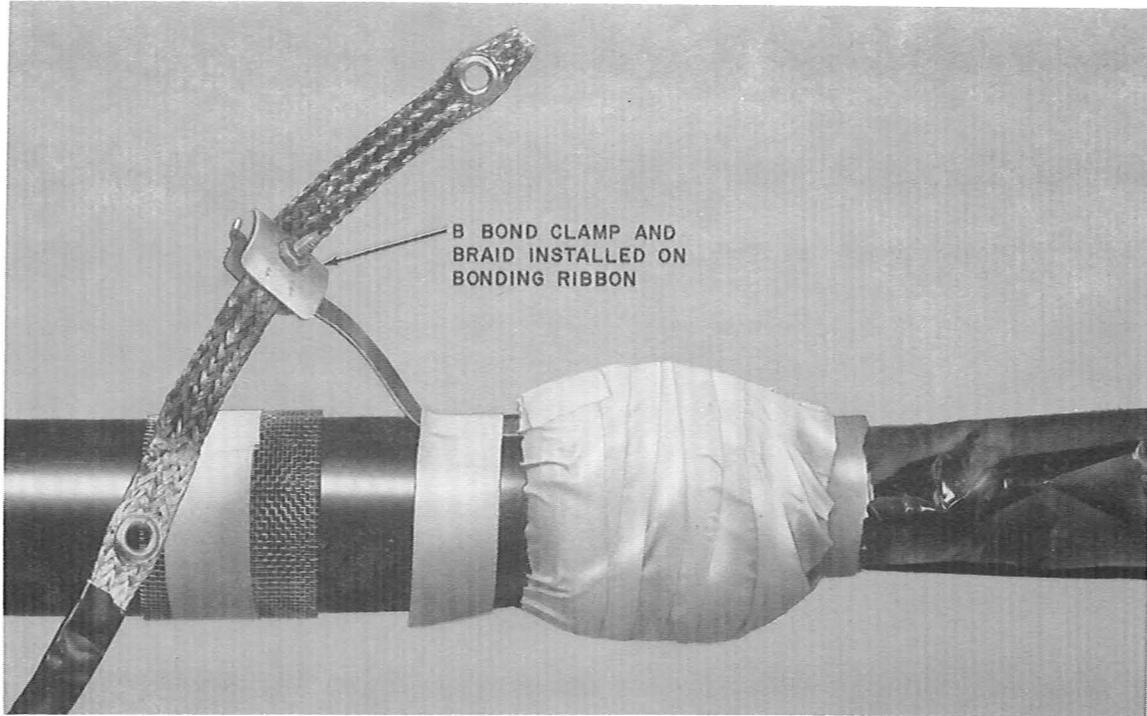

Fig. 11—Installed Bonding Braid
5.07 Install B bond clamp and braid on the bonding ribbon as shown in Fig. 11.